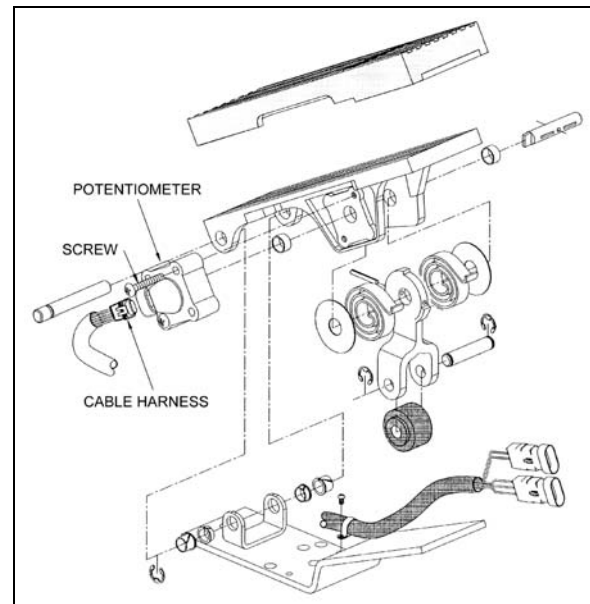

FIGURE 13: ELECTRONIC FOOT PEDAL ASSEMBLY⁰³⁰³⁵
The fuel cooler serves to cool the surplus diesel fuel after it has exited the cylinder head, on its way back to the fuel tank. It is accessible through the engine radiator door, and it is located just in front of the coolant radiator (Fig. 13).
3. Discard potentiometer (Fig. 13).
4. Position new potentiometer. Press potentiometer onto the potentiometer shaft, matching cutouts in shaft to drive tangs of potentiometer. Apply hand pressure until potentiometer has bottomed out in housing. Reinstall screws (Fig. 13) and tighten just enough to secure potentiometer lightly. Tighten screws to 10 - 20 Lbf-in (1.5 - .2 Nm).